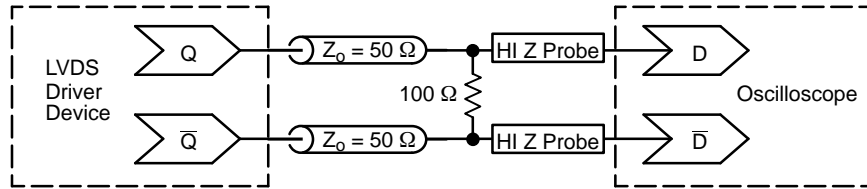

Figure 8. Typical LVDS Termination for Output Driver and Device Evaluation
5. LVDS outputs require $100\ \Omega$ receiver termination resistor between differential pair. See Figure 8.